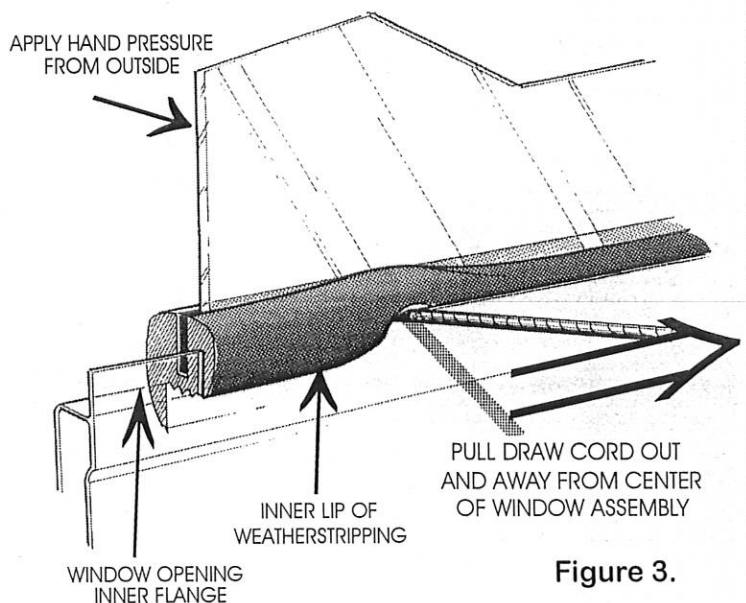

Figure 3.
4. Have the helper position the window assembly into the window opening and apply hand pressure to the outside of the glass. From the inside of the vehicle, pull the lip of the weatherstripping over the window opening inner flange with the draw cord. Begin pulling the draw cord away from the center of the window assembly, alternating from side to side and moving about 12 inches at a time. This allows the inner lip of the weatherstripping to slip over the window opening inner flange. (see figure 3.) Continue pulling the draw cord around the window until the glass and weatherstripping become secured into the window opening.